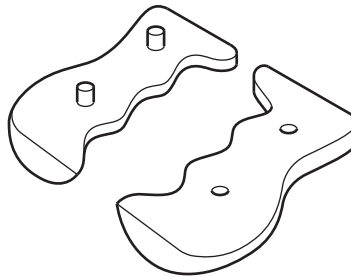

Fig. 6.1
- 6 Fig. 6.1 shows a split pattern made of wood.